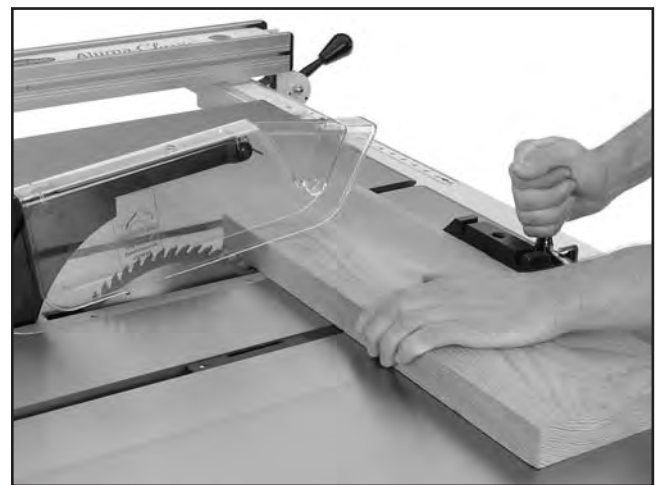

Figure 45. Crosscutting operation.
6. Hold the workpiece firmly against the face of the miter gauge and ease it into the blade as shown in **Figure 45**.